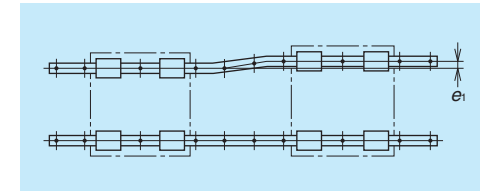

Fig. 10.5
- Figs. 10.5 and 10.6 represent the mounting errors of e_1 and e_2 . Their permissible values are shown in description "5. Installation" of each model.